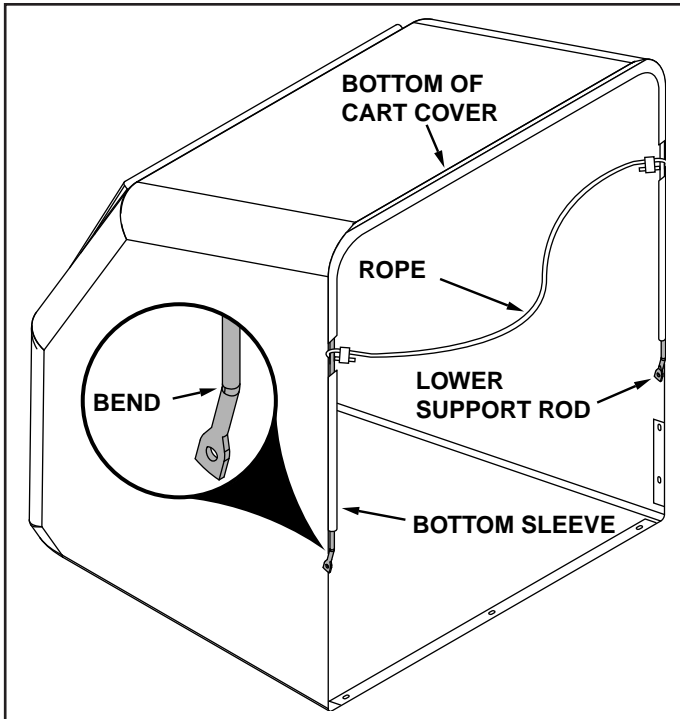

FIGURE 15
- Slide the second lower support rod (bent ends) through the sleeve along the bottom of the cart cover. Slide a looped end of the rope onto the rod as it enters each gap in the sleeve. The **bend** in the rod must face in the direction shown in figure 15.